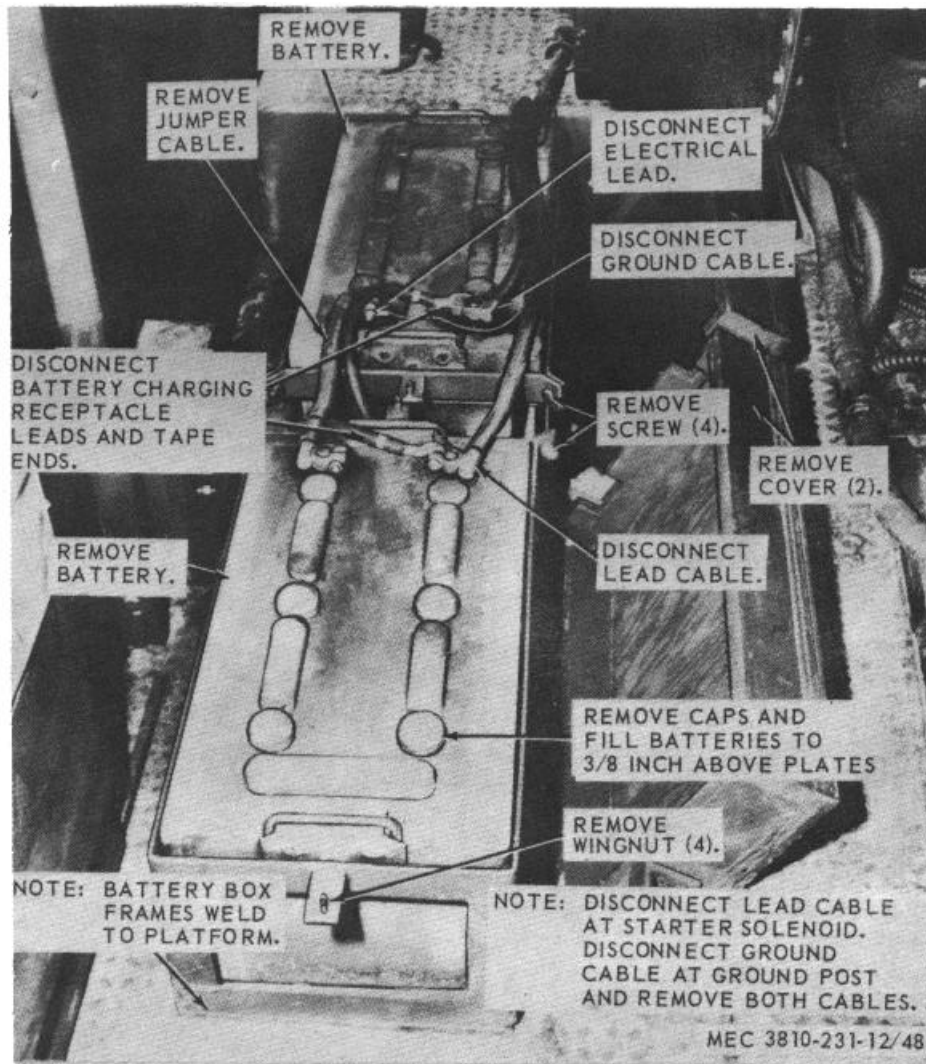

Figure 48. Batteries, cables, and battery box, removal and installation.
- b. *Removal and Installation.* Remove and install the batteries, cables and battery box as instructed in figure 48.
- (1) Clean the batteries, cables, and battery box with an approved cleaning solvent and dry thoroughly.
- (2) Clean battery terminals and cable lugs of all corrosion and grease lightly with GAA.
- (3) Inspect the batteries for cracks, leaks or other damage. Replace a defective battery.
- (4) Inspect the cables for frayed insulation, broken wires, bent or broken lugs, and other damage. Replace or repair damaged cables as necessary.
- (5) Inspect the battery box for cracks, breaks or other damage. Repair or replace a damaged battery box.